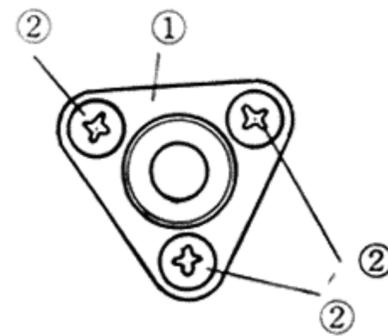

Fig. 7
4. Replacing the flywheel and metal plate (Fig. 7)